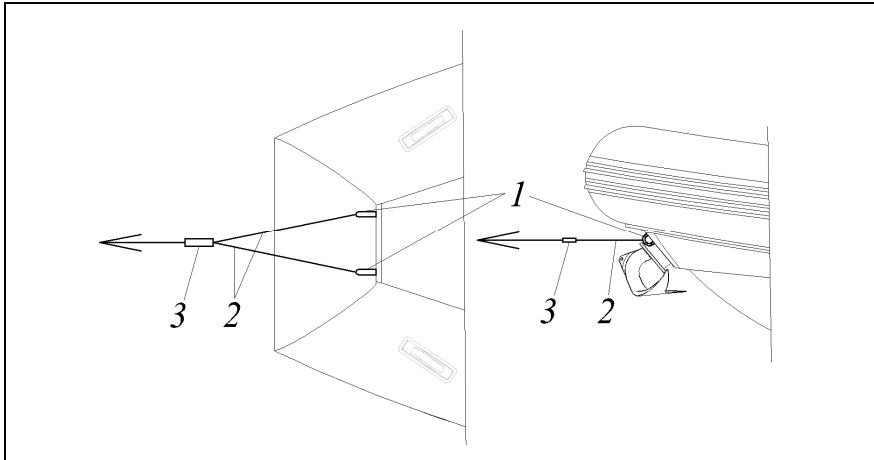

Fig.12
There is U-bolt in the bow ((1) Fig.12) of your boat for towing. On some boat modifications, two U-bolts can be installed. Use both U-bolts at the same time to tow your boat. The towing rope (2) must have a hook (3) to quickly disconnect your boat from the tugboat. This rope is not supplied by the manufacturer. You must purchase it yourself from BRIG dealers. U-bolt for towing is designed for a maximum horizontal load of 19kN. The breaking strength of rope shall in general not exceed 80 % of the breaking strength of the respective strong point.